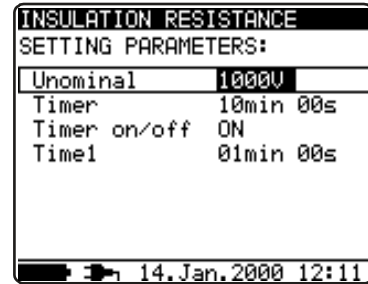

Fig. 10. Set-up menu in Insulation Resistance measurement
- Press the **SELECT** key, Set-up menu appears on display, see the figure 10.